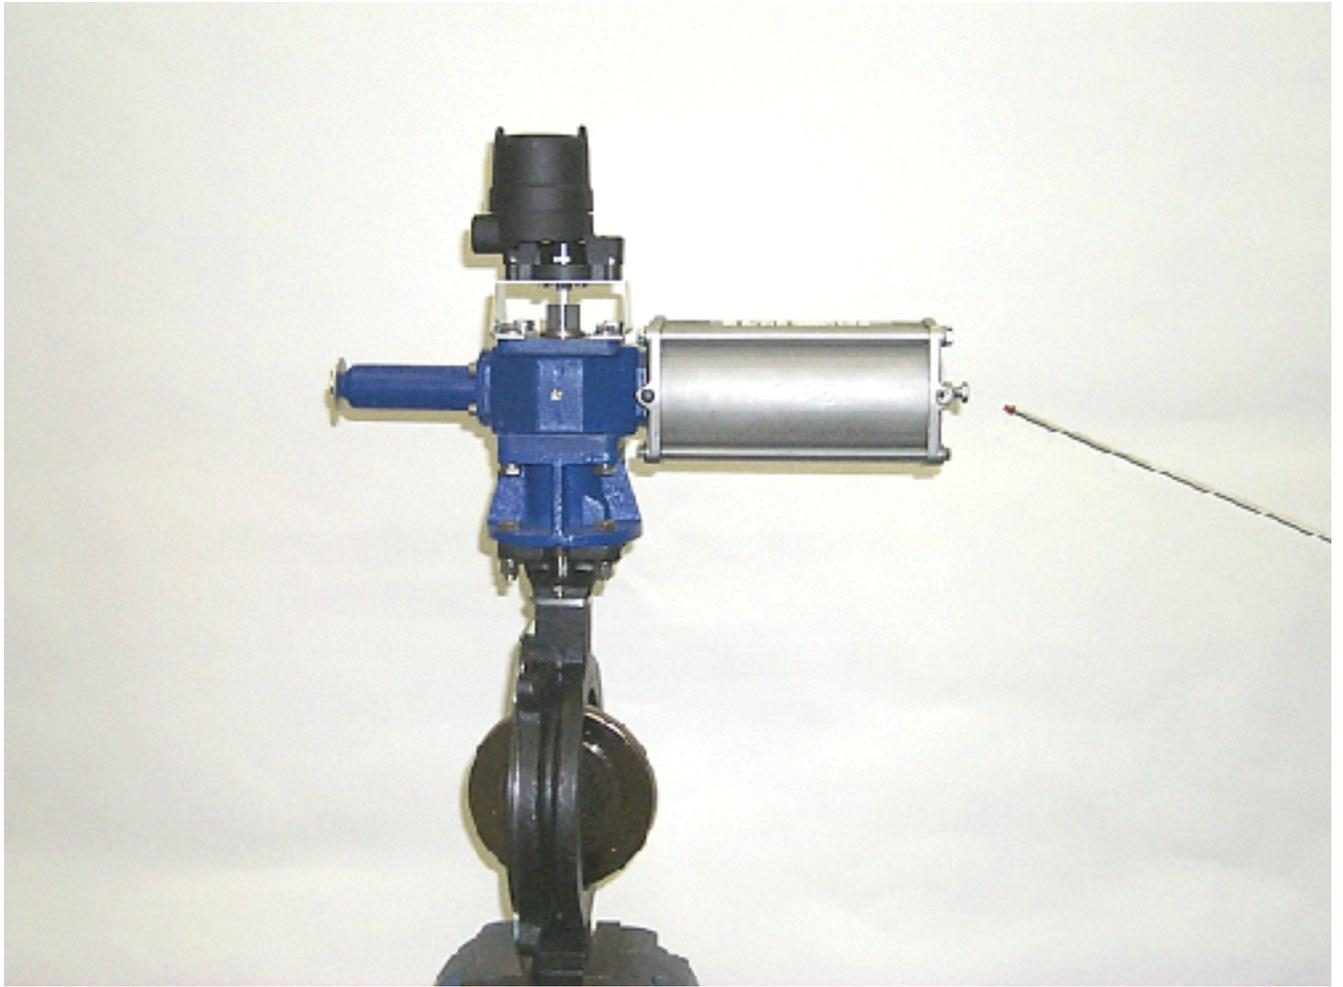
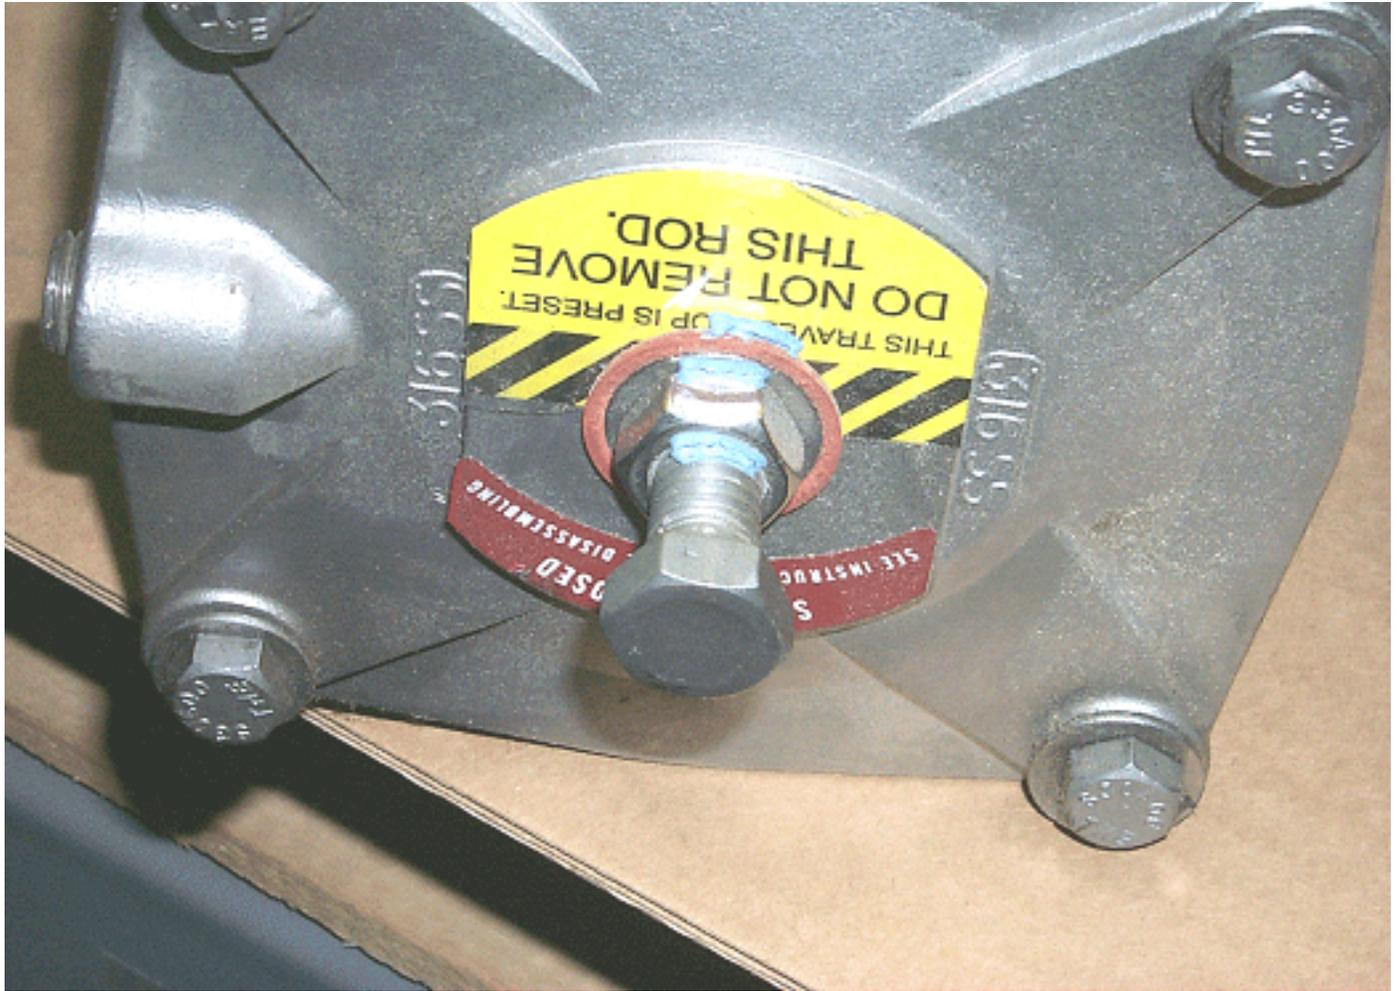

Figure 1.
Figure 2.
3. Before beginning this procedure examine the end of the "closed" travel stop bolt, (see Fig. 1) if there is a 2 stamped in the center of this bolt head, do not perform this procedure. If you are having trouble with a VA2 valve assembly stamped with a 2 please contact AC Controls' Chuck Andrews at (704) 545-4500 for recommendations on how to proceed.
2. Locate the "closed" travel stop bolt. (See Figure 1) The "closed" travel stop bolt was originally marked with either "anti-sabotage inspectors lacquer", as shown in Figure 2, or wired, as shown in Figure 3. Check to see whether these appear to still be at their factory setting or not. If not please contact AC Controls' Chuck Andrews at (704) 545-4500 for recommendations on how to proceed. Examples of previous adjustment would be a break in the Lacquer or twisting of the wire. If it appears the unit is still at its original setting and the unit was wired, cut the wire loose with a pair of wire cutters and discard. There is no need to replace this wire after completion of this procedure.